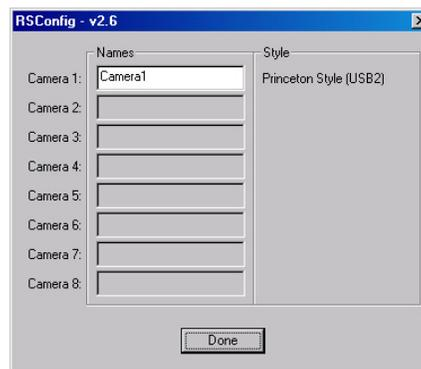

Figure 31. RSConfig dialog
4. When the RSConfig dialog (Figure 31) appears, you can change the camera name to one that is more specific or you can keep the default name "Camera1". When you have finished, click on the **Done** button.